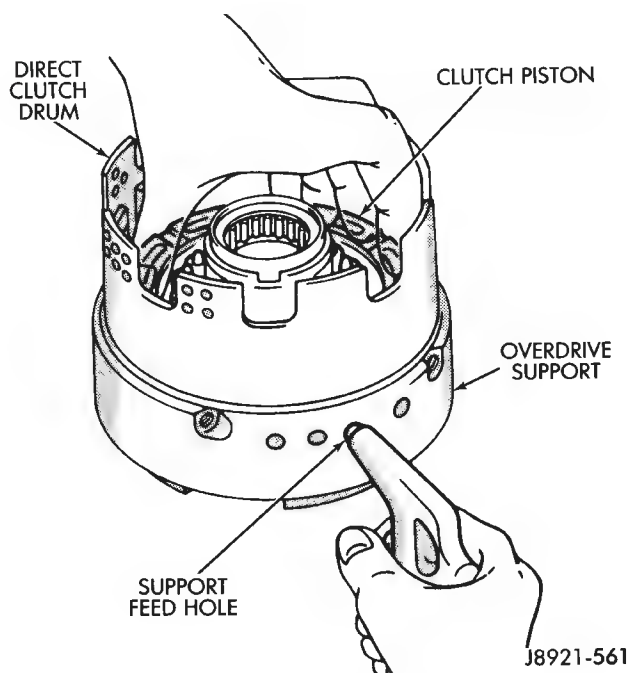

Fig. 7 Removing Direct Clutch Piston
(10) Remove compressor tool and return spring.
(11) Remove clutch piston. Remount clutch on overdrive support (Fig. 7). Apply compressed air through piston feed hole in support to remove piston.